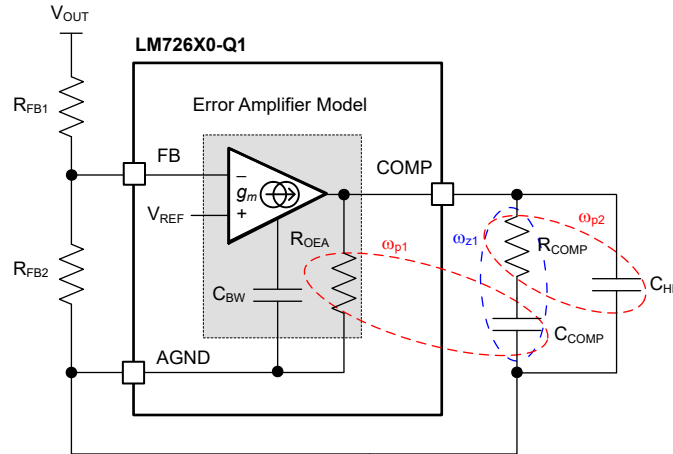

Figure 9-3. Error Amplifier and Compensation Network
A Type-II compensator using a transconductance error amplifier (EA) is shown in Figure 9-3. The dominant pole of the EA open-loop gain is set by the EA output resistance, R_{OEA} , and effective bandwidth-limiting capacitance, C_{BW} as shown by Equation 22.
The EA compensation components create a pole close to the origin, a zero, and a high-frequency pole. Typically, $R_{COMP} \ll R_{O-EA}$ and $C_{COMP} \gg C_{BW}$ and C_{HF} , so the approximations are valid. Figure 9-3 circles the poles in red and the zero in blue.